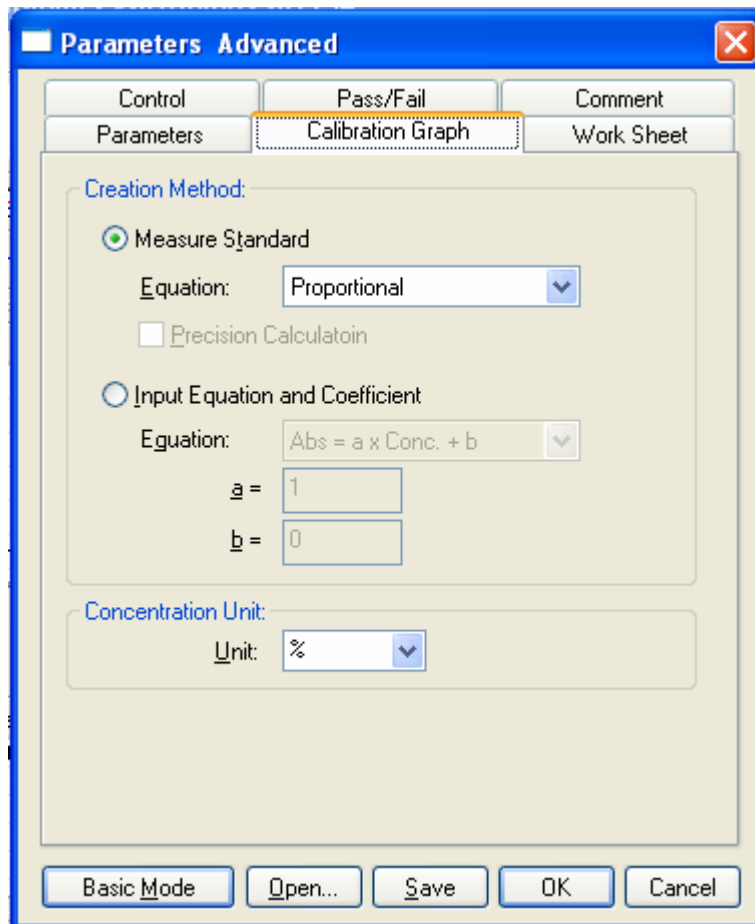

Figure 5.11 [Parameters Advanced] Dialog, [Calibration Graph] tab
(2) Click on the [Calibration Graph] tab (see Fig 5.11).